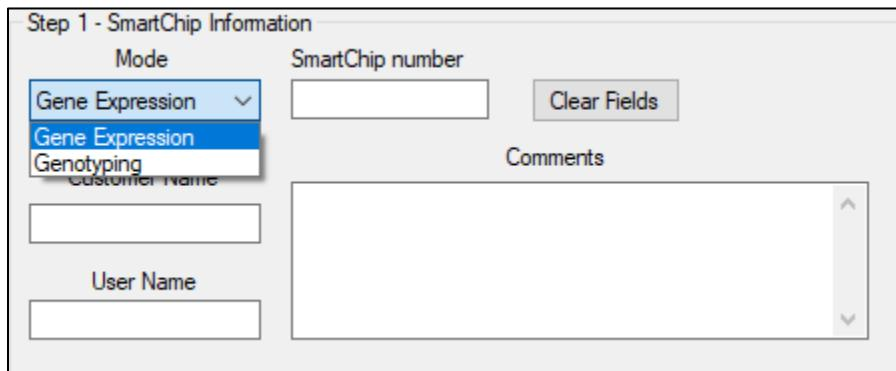
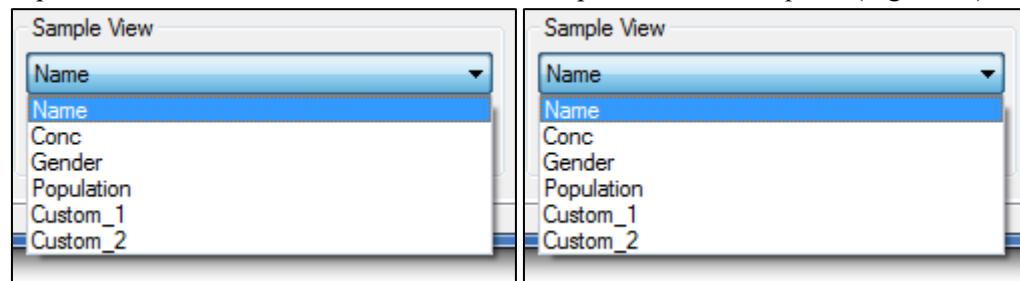

Figure 26. Mode list.
Figure 32. Sample View list.
- a. Select the type of experiment from the "Mode" dropdown menu (Figure 26).
- i. Select the sample attribute from the “Sample View” list (Figure 32). The attributes listed depend on the selection made in the “Mode” dropdown in the *Setup* tab (Figure 26).